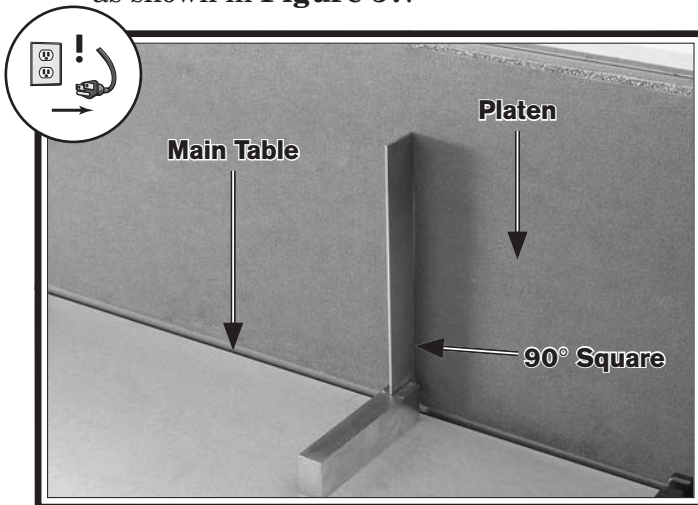

Figure 57. Square positioned to check table angle.
3. Set one edge of 90° square on main table surface and other edge against face of platen, as shown in **Figure 57**.